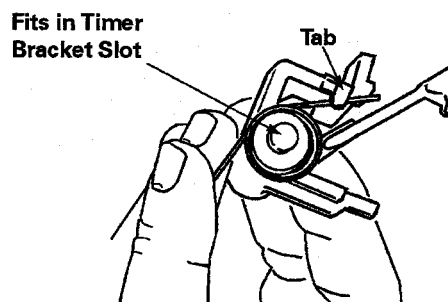

Figure 2-11
11. Depress driver for index wheel, this relieves spring tension on the timing mechanism, *see Figure 2-11.*